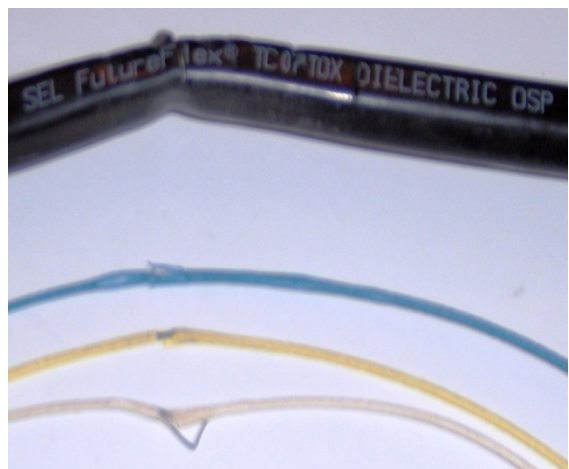

Figure 3
5.3 If the fiber bundle is damaged (some or all of the fiber optic strands inoperative), it should be scrapped and replaced. **See Fig. 3.**